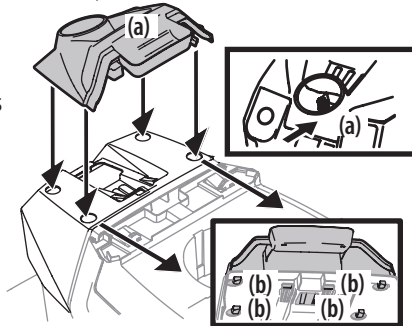

Figure 8
1. To install the dash cap (a), line up the tabs (b) on the dash cap (a) with the holes in the upper dash as shown in Figure 8.